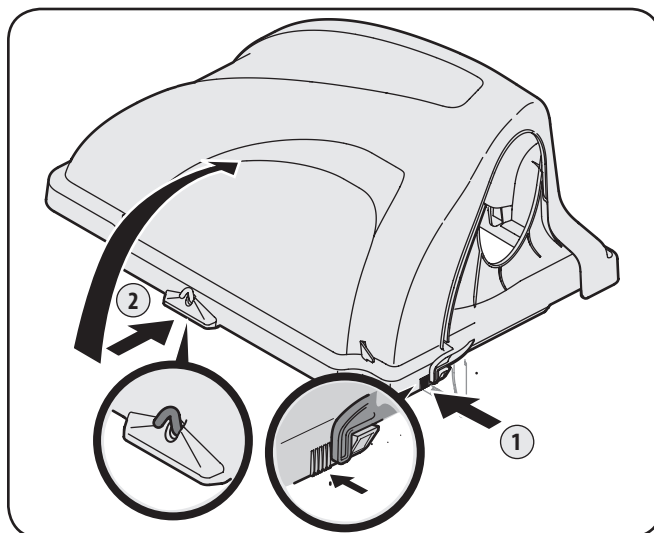

Figure 4-15
7. Open Hood by pushing in on the rear, right-side tab with your right hand, as seen in 1 of Fig. 4-15, and lifting the cover with your left hand in the center rear of the bagger cover, 2.